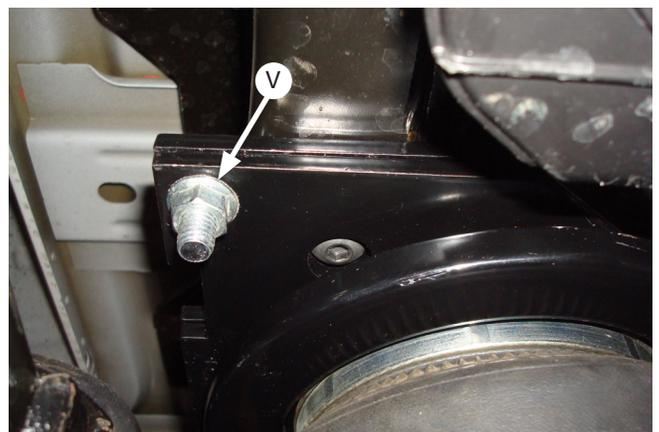

Fig. 42
3. Before proceeding, ensure the 90-degree fittings are pointing inboard toward the center of the vehicle. While raising the axle or lowering the body of the vehicle, align the previously installed upper frame bracket carriage bolts (including the one on the air spring bracket) with the air spring bracket/frame brace holes so the carriage bolts protrude. Cap all the carriage bolts with the 3/8" serrated flange lock nuts (V) (Fig. 42). Snug the bolts down first, then torque to 31 lb.-ft. (42Nm).